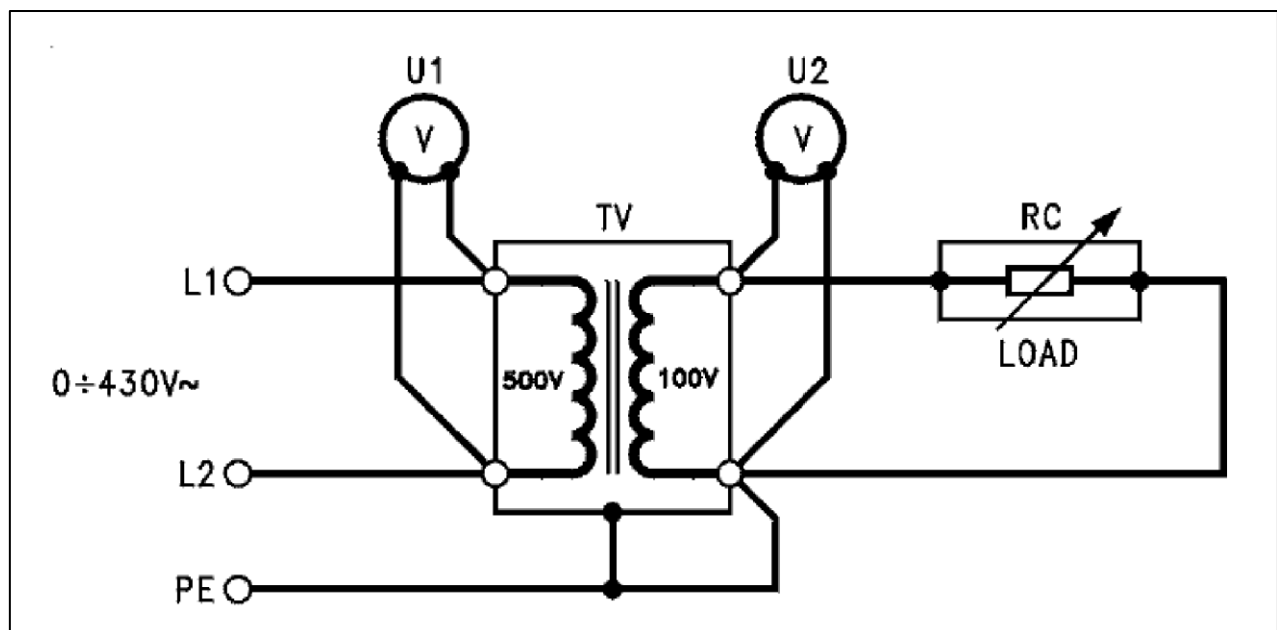

Figure 1 Electrical connection diagram of a VT for the performance test
1. Follow the electrical diagram of figure 1.